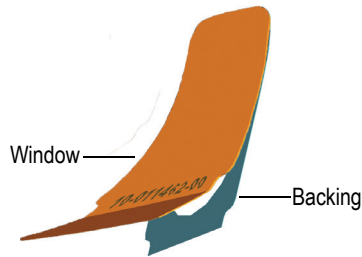

Figure 4-2 Separating window from backing
1. Peel the window completely off the backing material (see Figure 4-2 on page 92).